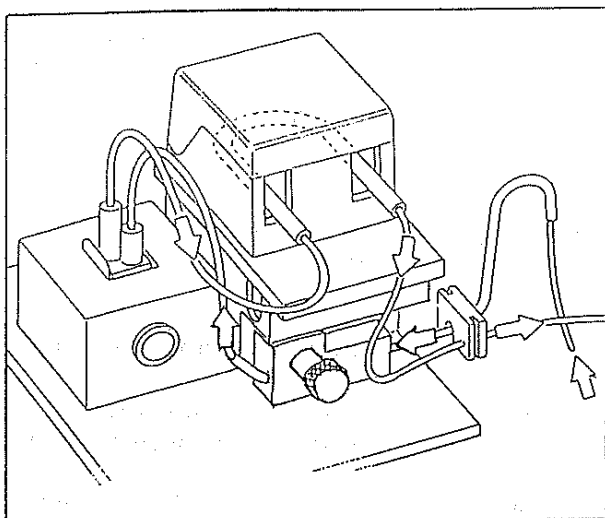

Fig.3.1 Positioning of Autofill tubing
- k) Operate the system in both the waste and return modes (see section 3.12, part I of this instruction manual) a number of times to ensure that the pump tubing is located and functioning correctly. The correct liquid flow when in the waste mode is shown in Fig.3.1 as are the correct tube connections and positioning.